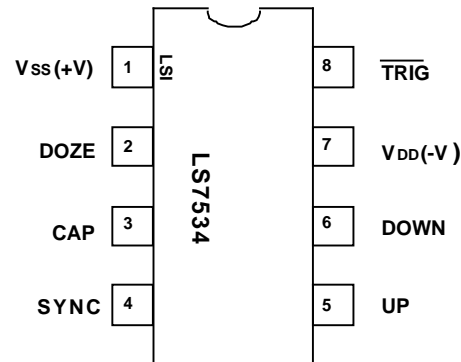

FIGURE 1
- LS7534, LS7535, LS7535FT (DIP); - See Figure 1